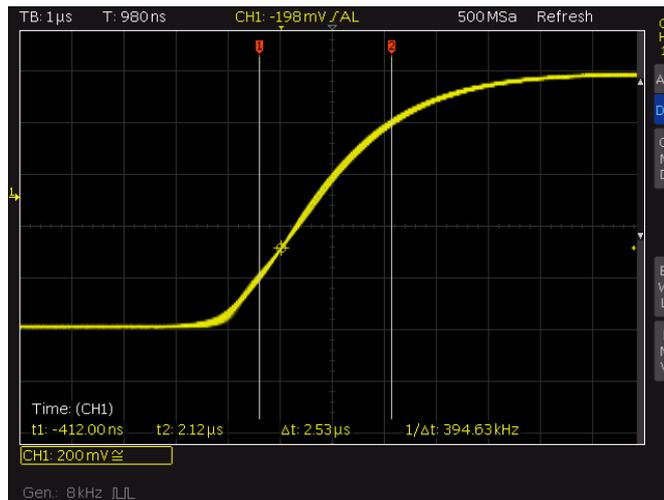

Fig. 19: Measuring the rise time of a pulse.
Fig. 19 provides an example of a correct HMO1002 display configuration for measuring the rise time  $t_A$ . The important thing to note is that the steady state is assumed for 0 % and 100 %.
? What is the minimum bandwidth an oscilloscope must have in order to measure the signal from Fig. 19 with 10 % accuracy? Use formula (1) to calculate.